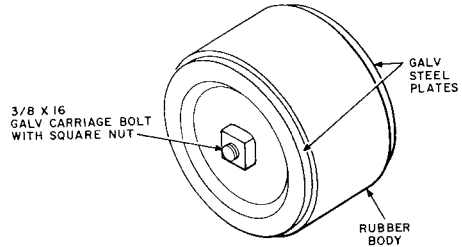

Fig. 1—Solid Rubber Conduit Plugs
2.02 The square solid rubber conduit plug (Fig. 1) consists of a soft, expandable, rubber center section between two zinc coated steel compression plates assembled with a 3/8-inch carriage bolt and square nut. A square hole in the center of the steel plate conforms to the square shoulder of the carriage bolt to prevent the bolt from turning when the nut is tightened.
2.04 The round solid rubber plug is identical in construction to the square solid rubber plug except for the circular design of the steel plates and rubber center section (Fig. 1).